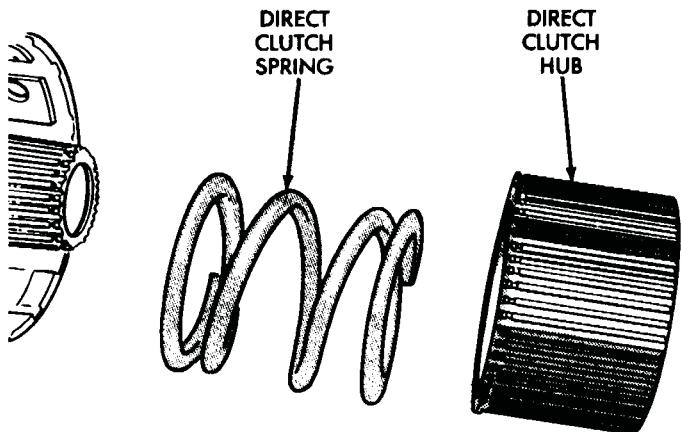

Fig. 25 Direct Clutch Hub And Spring Removal
- (14) Remove direct clutch hub and spring (Fig. 25).